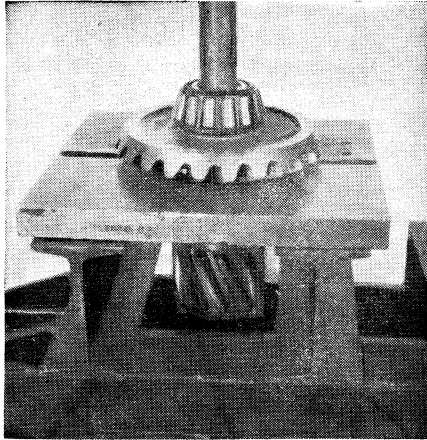

Fig. 60 Press cross shaft from gear and bearing
19. Press shaft from gear and bearing, Fig. 60.